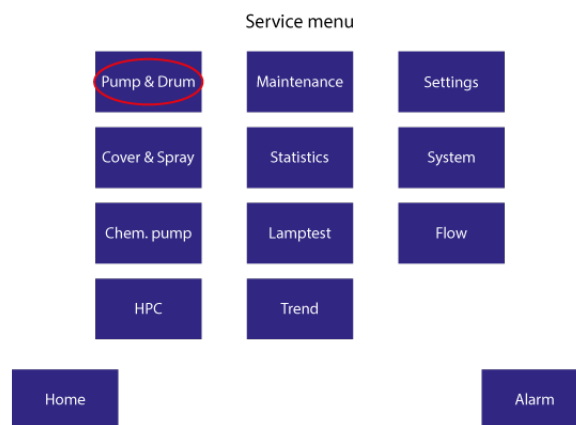

Figure 7.11 Service menu.
4. Select “Pump & Drum”, see Figure 7.11.
10. Select “Cover & Spray”, see Figure 7.11.